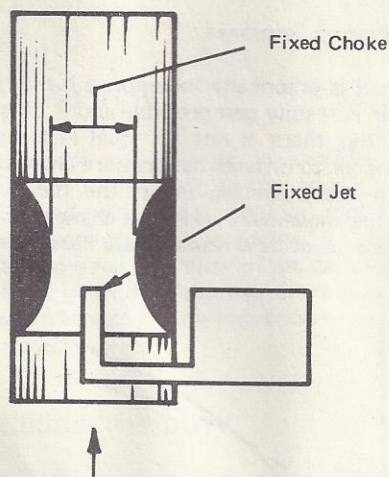

Fig.2 – Elementary Fixed Choke System
2.4. Fixed Choke System (Fig. 2)